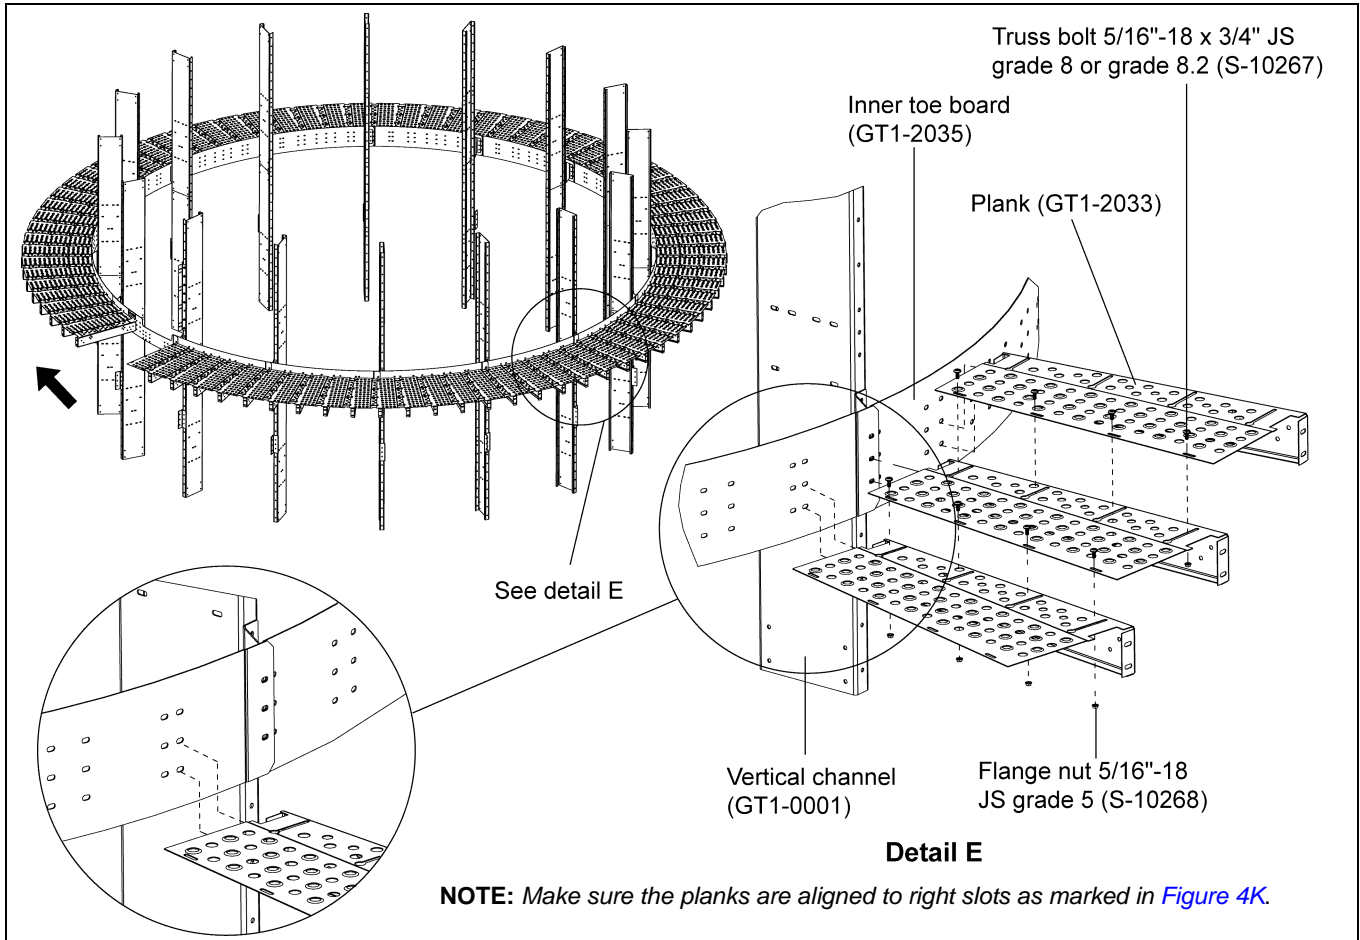

Figure 4J
1. Install planks around the dryer on inner toe board starting from ladder opening toe board (GT4-1465) as shown by arrow in the Figure 4J.
2. Planks (GT1-2033) are installed to bottom two (2) holes of the inner toe board (GT1-2035) using 3/8"-16 x 1" JS grade 8 or grade 8.2 bolts (S-7485) and 3/8"-16 ZN grade 5 nuts (S-968). (See Figure 4J.)